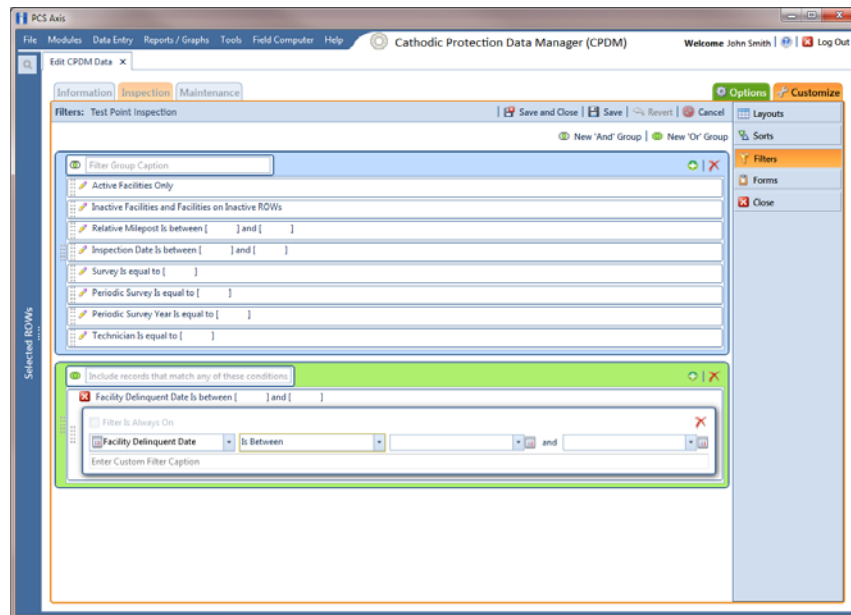

Figure 6-76. Filters
- 5 Click  **New 'Or' Group** to open a filter properties group box (Figure 6-76, page 243).
- 8 If the OR filter group includes a date filter, such as *Facility Delinquent Date Is Between* shown in Figure 6-76 (page 243), set a date range using a calendar or dynamic dates in the following manner: